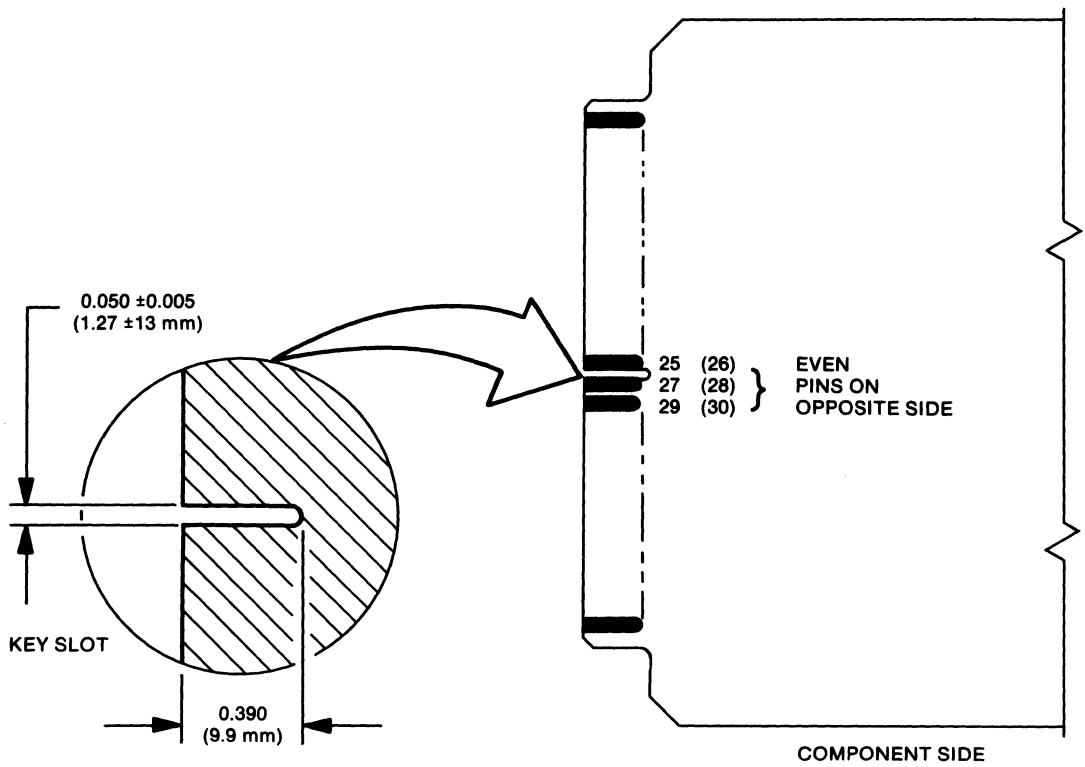

Figure 1-16. Key Slot Placement and Dimensions for Card Polarity Keying
Card Keying. Cards should be polarity keyed to prevent upside-down card insertion. Cards keyed for polarity shall have a single, offset keyslot located between pins 25 (26) and 27 (28) as shown in figure 1-16.